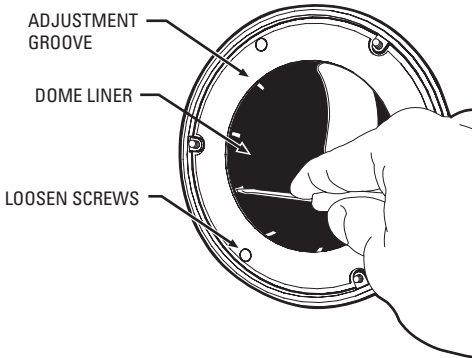

Figure 13. Dome Liner Adjustment
1. Adjust the dome liner if installed (refer to Figure 13):